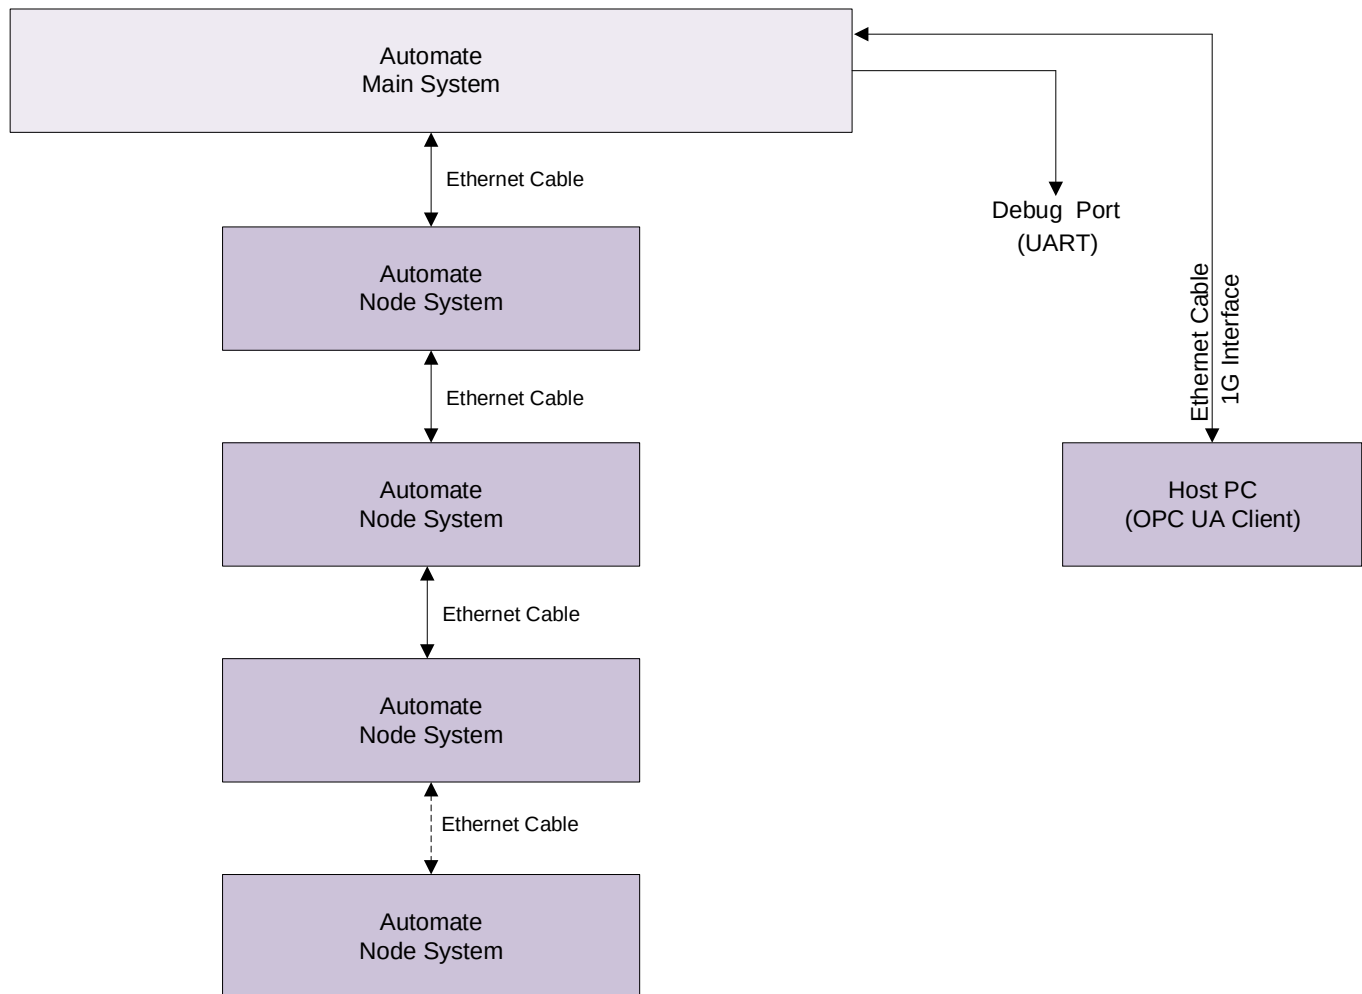

Figure 2.1. Lattice Automate Stack 3.1 Top Level Block Diagram
Figure 2.1 shows the overall architecture of the Automate demo system. The Automate Stack 3.1 consists of one Main System (MS) and multiple Node Systems (NS), maximum of eight in a chain. The host is connected to the MS through ethernet cable. The application software, with the user interface running on host, can send commands to the MS and receive motor maintenance data from the system for AI training. The MS can propagate the commands to NS using OP-CUA packets for motor control and gather maintenance data from NS.